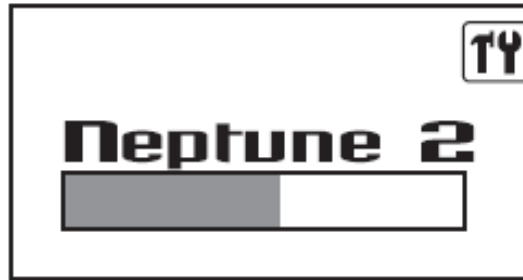

Figure 2: Neptune Splash Screen
2. Once the Neptune 2 splash screen appears, continue to push the display button until the tools indicator in the upper right corner is highlighted solid white (see figure 2)